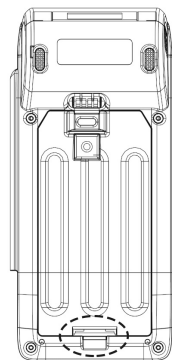

Figure 11
- STEP 2: After install the battery, close the bottom cover as Figure 11.